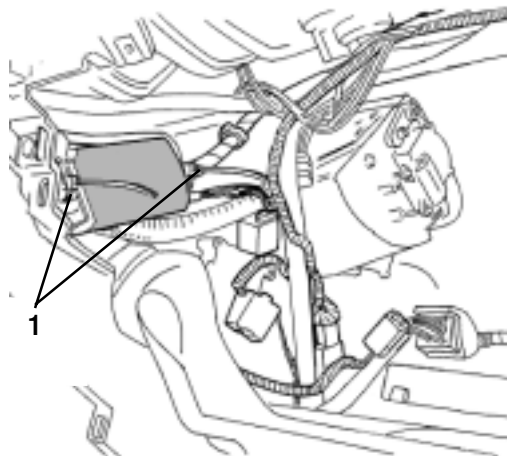

FIGURE 32
5. USING THE TWO MOUNTING HOLES ON THE SIDES OF THE FM MODULATOR SECURE THE FM MODULATOR TO THE HARNESS LOCATED ON THE RIGHT SIDE OF THE RADIO OPENING ABOVE GLOVE BOX USING 2 THIN TIE WRAPS (1). (SEE FIGURE 32)